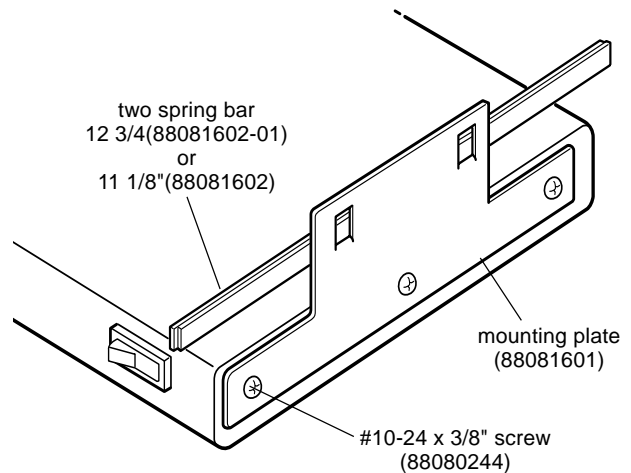

Figure 1
1. Position mounting plates on Task Light ends aligning all holes, making sure the lances on the plates are facing inboard. Fasten with six (6) #10-24 x 3/8" phillips screws provided using a #1 phillips driver. (Figure 1)